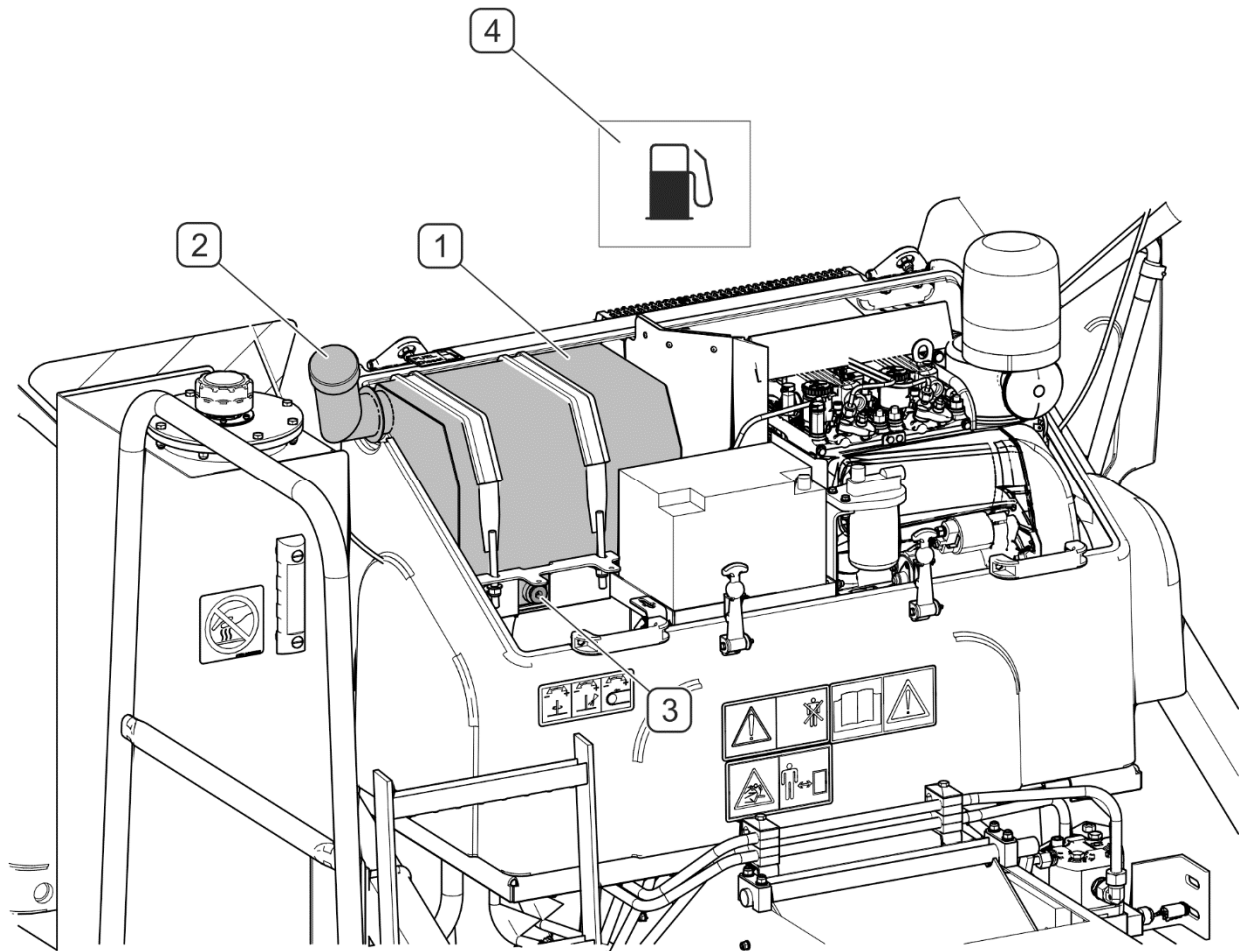

FIGURE 4.2 Checking fuel level
- If the "Low fuel level" indicator (4) (FIGURE 4.2) lights up on the control panel display, add fuel to the fuel tank.